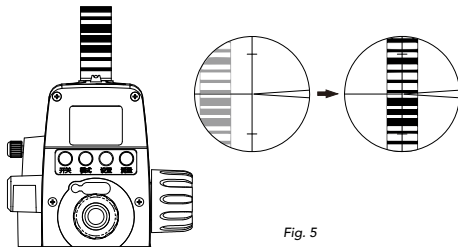

Fig. 5
- Target the staff through the peep sight. Rotate the focusing knob to make the staff image clear. Ensure the vertical hair is crossed with the middle of the staff. (fig. 5)